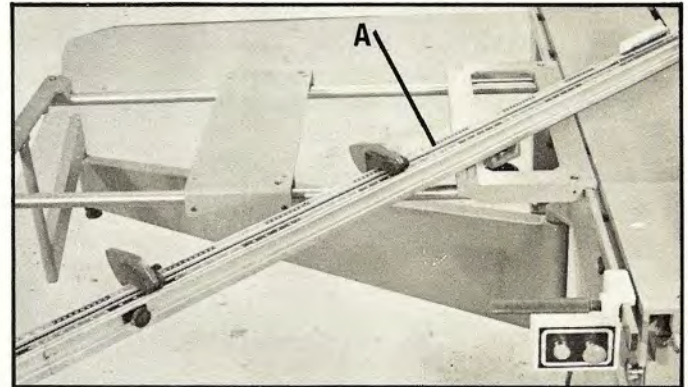

Fig. 48
The cross-cut fence (A) can be used to make angle cuts as shown in Fig. 48, up to 45 degrees right or left.